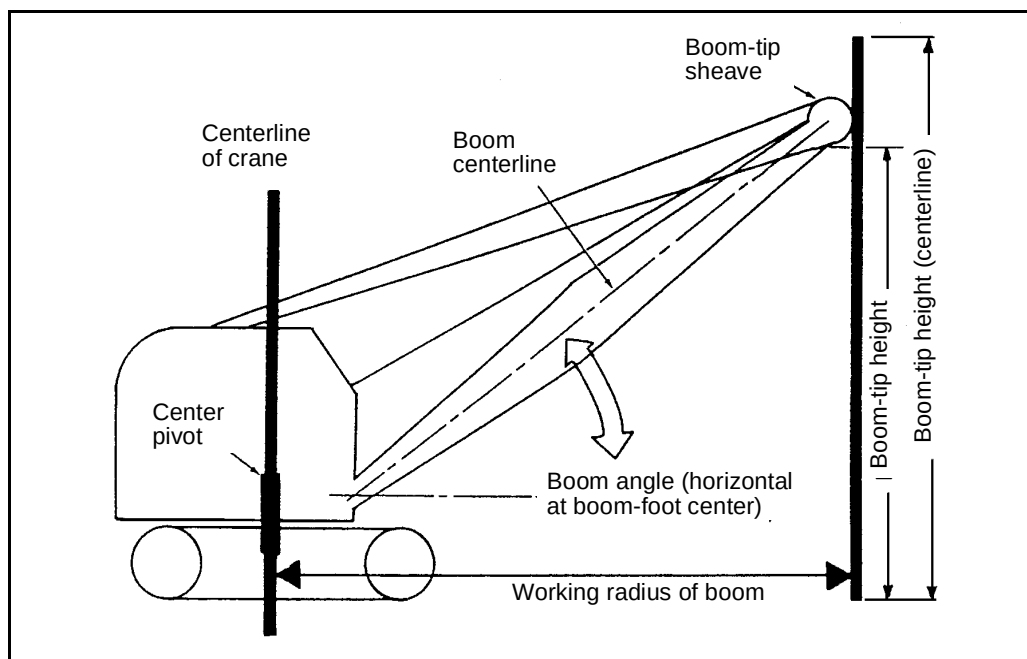
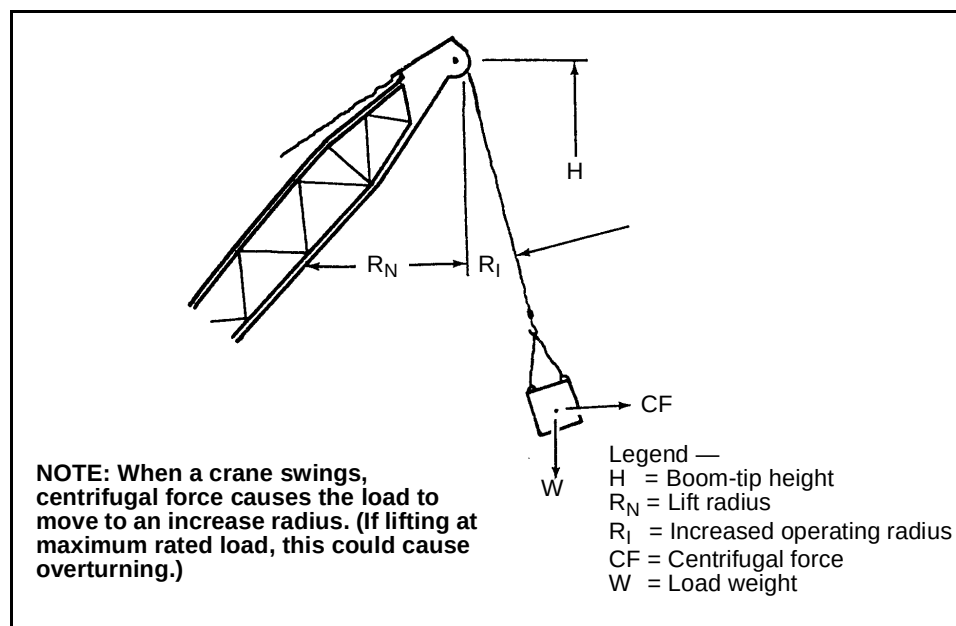

Figure 7-6. Operating Radius of a Boom
Figure 7-7. Effects of Centrifugal Force on the Operating Radius
7-21. Operating (working) radius (*Figure 7-6*) is the horizontal distance measured from the axis of rotation of the superstructure to a vertical line extending down from the outside edge of the crane's boom-tip (head) sheave. Cranes are rated according to hoisting capacities at various radii, based on either tipping or structural constraints. Swinging the boom causes a centrifugal force (*Figure 7-7, page 7-8*), which in effect increases the operating radius. High winds can also push the load, which increases the operating radius (*Table 7-1, page 7-8*). As the working radius increases, the hoisting capacity decreases. It is essential to know the weight of a load before hoisting.
**NOTE: Remember that centrifugal force (caused by swinging the boom or from the wind) can increase the radius. Refer to *Figure 7-7*, *page 7-8*, and *Table 7-1*, *page 7-8*, respectively.**